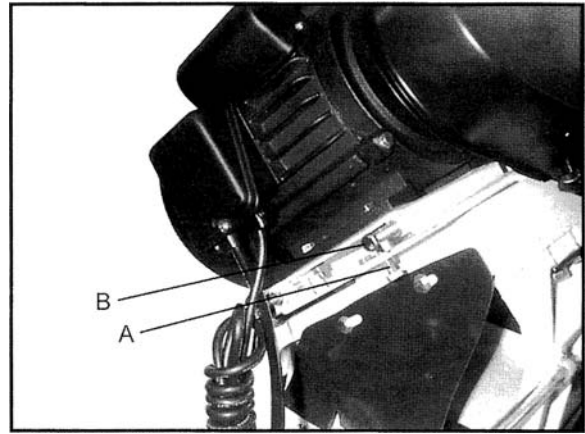

Figure 10
2. Loosen motor plate lock bolt (A, Figure 10).
3. Loosen motor plate slide bolt (B, Figure 10) until the belt can be moved on the pulleys.
5. Tighten motor plate slide bolt (B) to re-tension belt.
6. Tighten motor plate lock bolt (A).